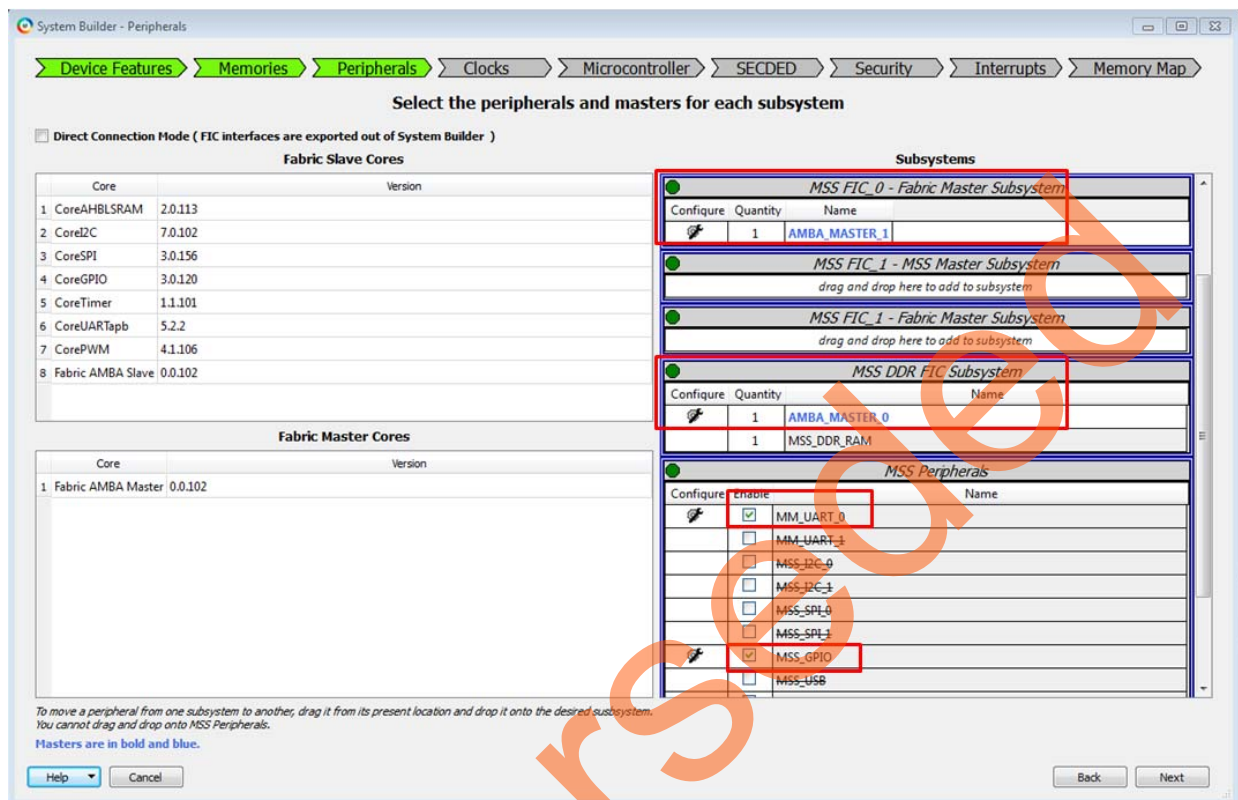

Figure 10 • Selecting MMUART_0 and MSS GPIO in Peripherals Tab
4. In the Peripherals tab, drag **Fabric AMBA Master** to **MSS DDR FIC Subsystem**, as shown in Figure 10. **AMBA_MASTER_0** is added to the subsystem. Configure the Interface Type as **AXI**. Figure 10 shows the Peripherals tab.